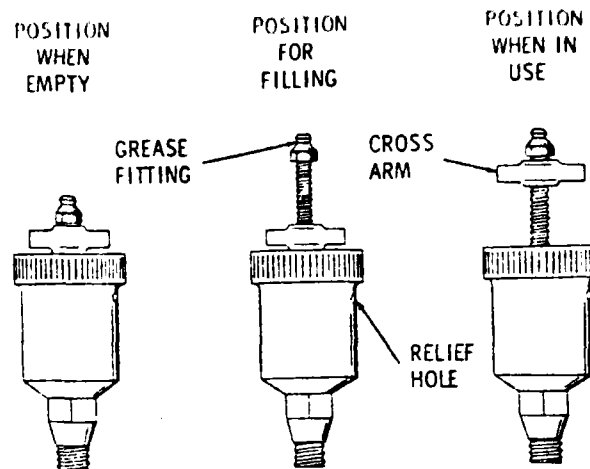

Figure 11. Automatic lubricating grease cup.
b. Gorman-Rupp Grease-Lubricated Mechanical Seals. The grease-lubricated mechanical seal applies grease to the seal from a spring-loaded grease cup. When the plunger bottoms on the grease cup cap, the grease cup must be refilled (see Figure 11). Use only a good, soft grade of No. 2 pressure gun grease. Do not use a hard grease since it will not flow into the seal and seal failure may result. To fill the grease cup, turn the cross arm clockwise to raise the plunger and compress the spring. While in this position, the cup can be filled using a grease gun at the grease fitting on the top of the plunger. Fill the cup until grease comes out of the relief hole. The grease cup can also be filled by hand by removing the cap. During pump operation, turn the cross arm counterclockwise until it is at the top of the threaded plunger in order to apply spring pres-